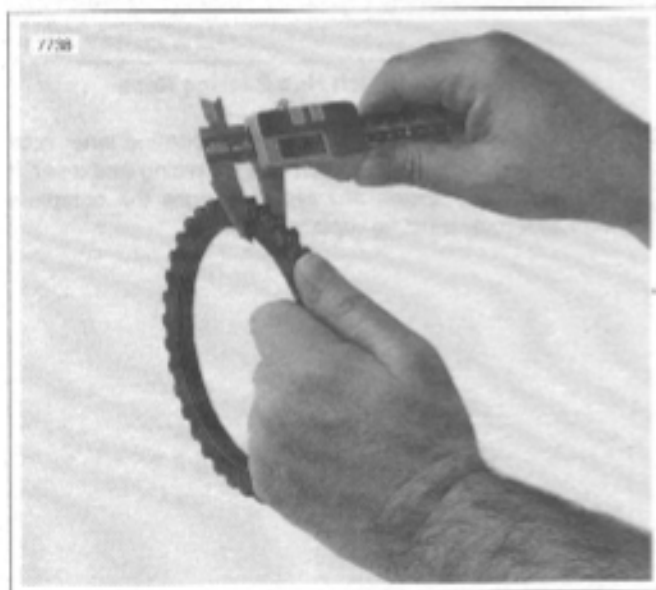

Figure 6-22. Measuring Friction Plates
3. See Figure 6-22. Check fiber plates for thickness.